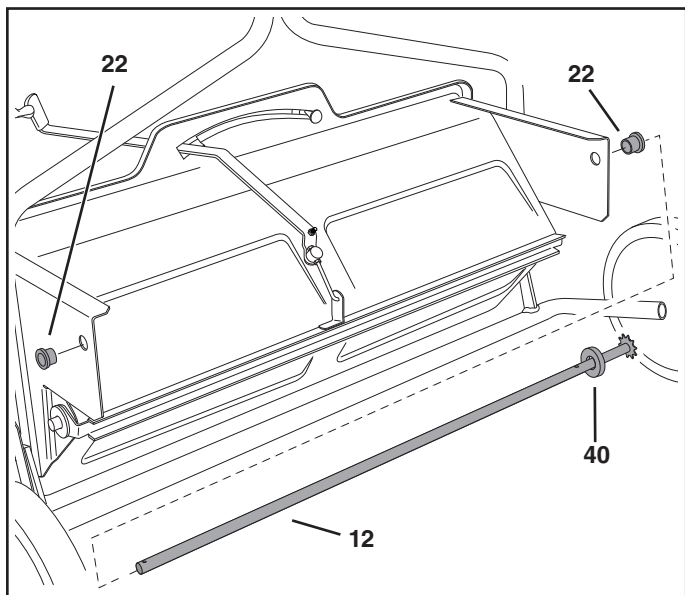

FIGURE 14
- Press flanged bearings (22) into both of the end plates. See figure 14.
- **Place the 1/4" thick spacer (40) onto the spike disk shaft (12) and then insert the shaft through the flanged bearing (22) in the left hand end plate. See figure 14.**